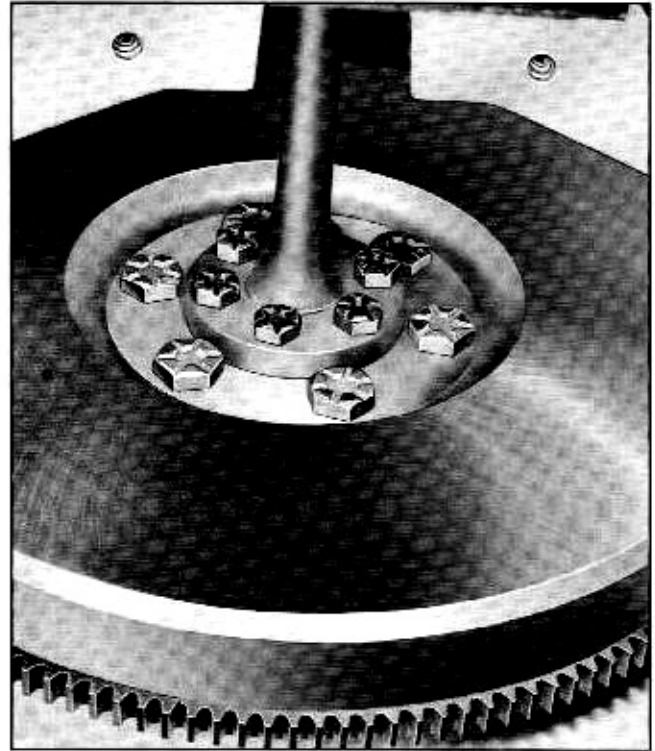

Fig. 4-16 Bolts Connecting Propeller Shaft to Flywheel
6. Remove six bolts (Fig. 4-16) connecting propeller shaft flange to flywheel.